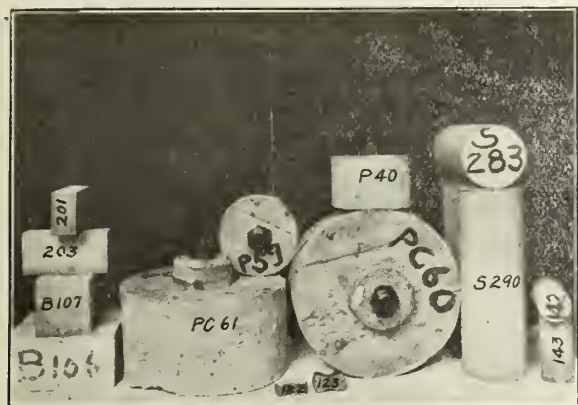

Fig. 1. Specimens Used in Different Tests
1. Tensile tests on standard briquettes (Fig. 1, Nos. 122 and 123). Mixes employed are 1:2, 1:3, 1:4, and 1:5. Four briquettes of each mix are tested at the following ages: 1:2 mix at 7, 28, 60, 180, and 360 days; 1:3 mix at 7, 28, 60, 180, 360 days, 2 yr., and 5 yr.; 1:4 and 1:5 mixes at 7, 60, and 360 days.
2. Compression tests on 3x6 in. cylinders (Fig. 1, Nos. 142 and 143). Mixes employed are 1:2, 1:3, 1:4, and 1:5. Three cylinders of 1:2 and 1:3 mixes are tested at 7, 28, 60, 180, and 360 days; three cylinders of 1:4 and 1:5 mixes at 7, 60, and 360 days.
4. Absorption tests on 2, 2¼x4x8-in. specimens (Fig. 1, Nos. 201 and 203) from each of the mixes.
7. Permeability tests on four cylinders 8 in. in diameter and 5 in. high (Fig. 1, P 40 and P
1. Compressive strength of 6x18-in. cylinders (Fig. 1, S283 and S290). Mixes employed are 1:2:4 and 1:3:6 proportions by volume; 1:6 and 1:9, proportions by weight. The last two proportions are determined by a combination of the mechanical analysis and yield test methods. Tests will be made whenever possible by using materials from the same locality. In studying some of the broken stone aggregates, tests will also be made using Janesville sand for the fine material. Three specimens of each of the first two mixes are broken at 7, 28, 60, and 360 days. A like number from the other mixes are broken at 7 and 60 days.
3. Absorption tests on 2, 5x5x10-in. specimens (Fig. 1, B106 and B107), same mixes as in 1.
6. Permeability tests on 4 cylinders 16 in. in diameter and 9 in. high (Fig. 1, PC 60 and PC 61) from 1:2:4, 1:6, and 1:9 mixes. Specimens are similar to mortar permeability cylinders except that the distance from embedded opening in casting to surface of concrete, shortest path for water flow, is 6 in. in concrete specimens.